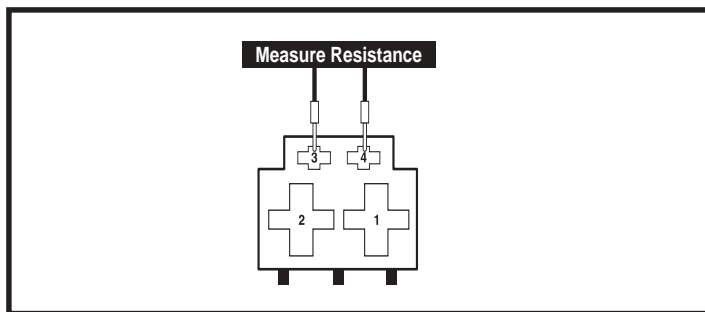

Figure 39. Connector 8a
7. Measure resistance from pin 3 to pin 4 on connector 8a. See **figure 39**.
- If your multimeter indicates about 45 ohms, then replace the power module (2) and retest the system.